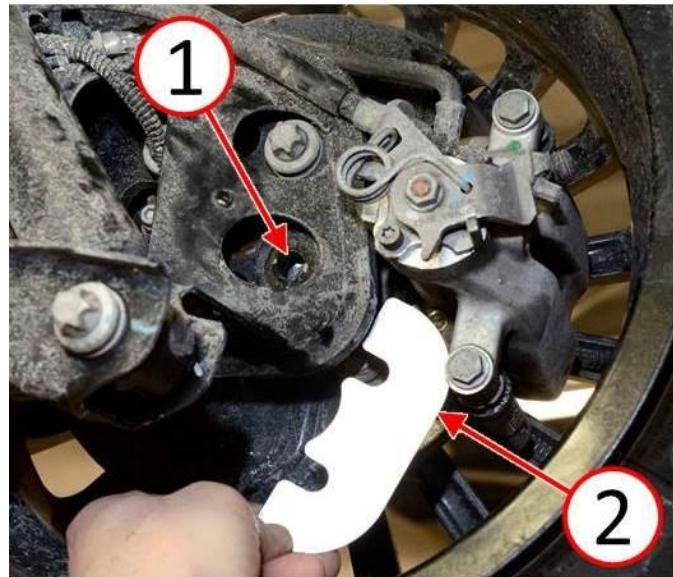
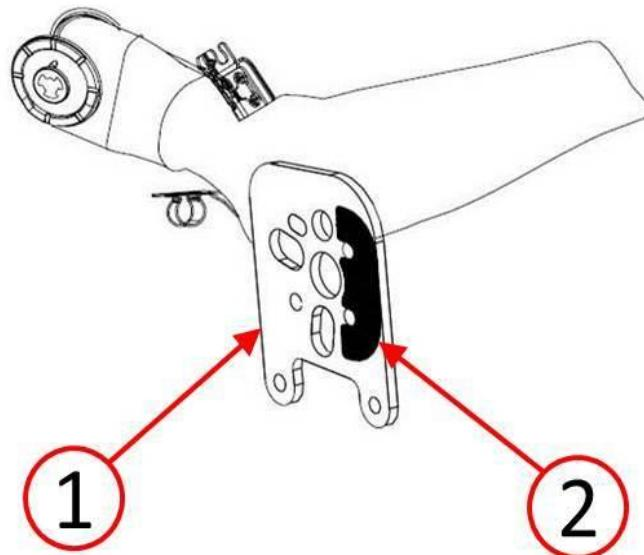

Fig. 5 Insert Rear Shim - Right Side Shown
Fig. 6 Rear Shim Location - Left Side Shown
To correct an out of specification Toe-out condition, remove only the lower rear spindle bolt for shim clearance, then insert the rear shim (2) between the rear axle and the spindle as shown in (Fig. 5) and (Fig. 6).